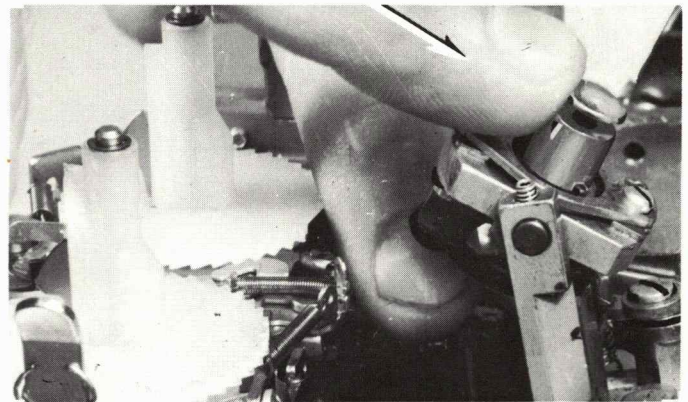

FIGURE 66. Removing Tilt Ring Play
4. **Tilt Ring Homing** - With a zero-tilt character half-cycled and the tilt ring play removed in the negative or restoring direction (Fig. 66) adjust the right hand tilt pulley so that the rear of the tilt ring will rise about .005" when the detent is manually allowed to seat in the detent notch (Fig. 67A). Note: The rear of the tilt ring is nearest the platen.